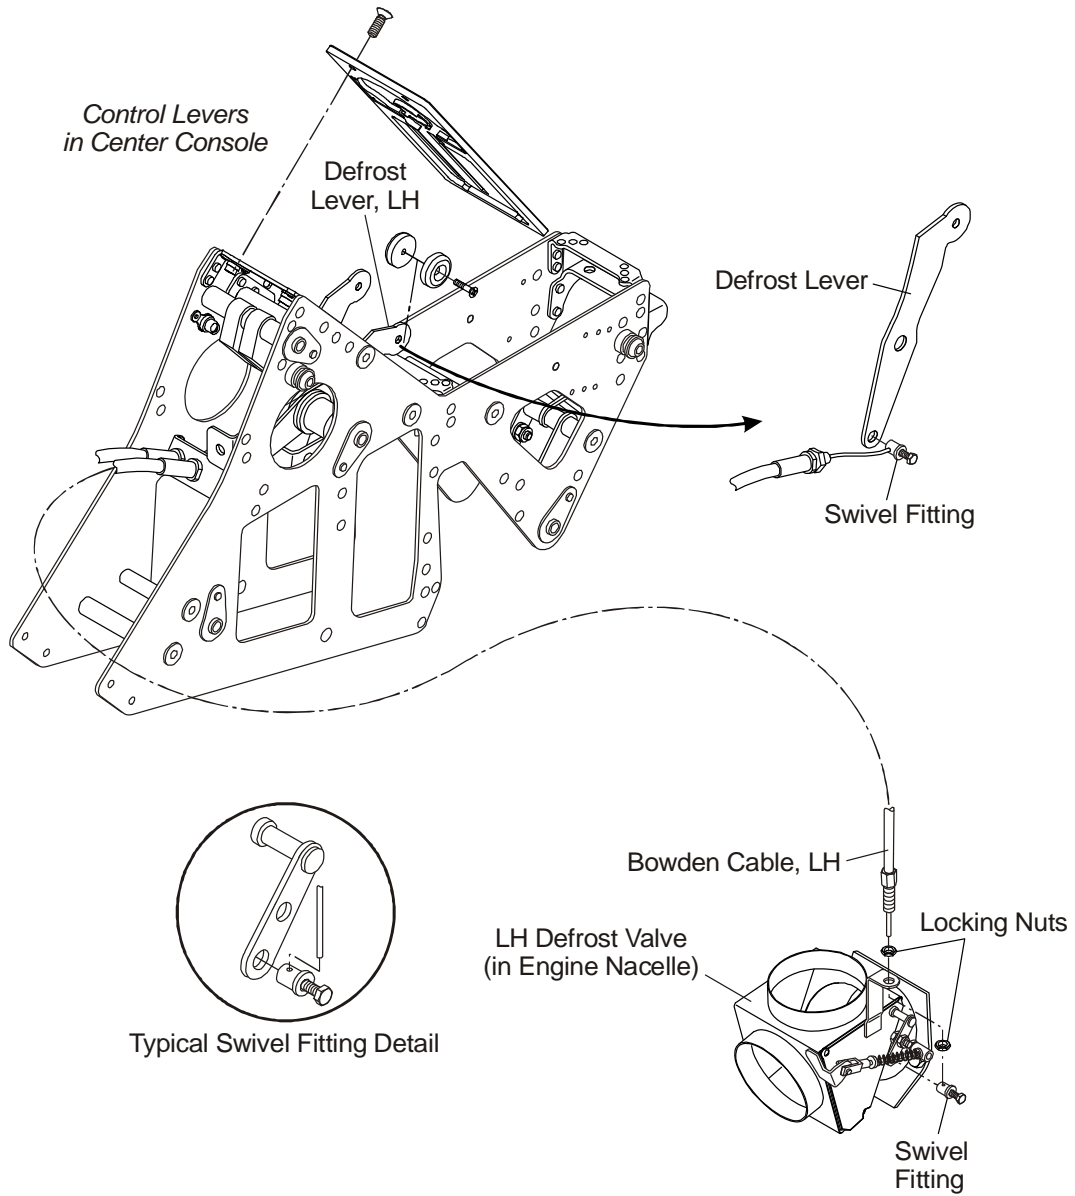

Figure 6: LH Heater Valve Control Cables (if MÄM 42-739 is installed)
(4)	<p>Disconnect the cable at the heater valve operating lever:</p> <ul style="list-style-type: none"> <li>– Loosen the screw that attaches the swivel fitting to the operating lever and cable.</li> <li>– Pull the cable clear of the swivel fitting.</li> <li>– Move the swivel fitting clear of the operating lever.</li> </ul> <p>Refer to Figures 6 and 7.</p> <p>Retain the swivel fitting.</p>